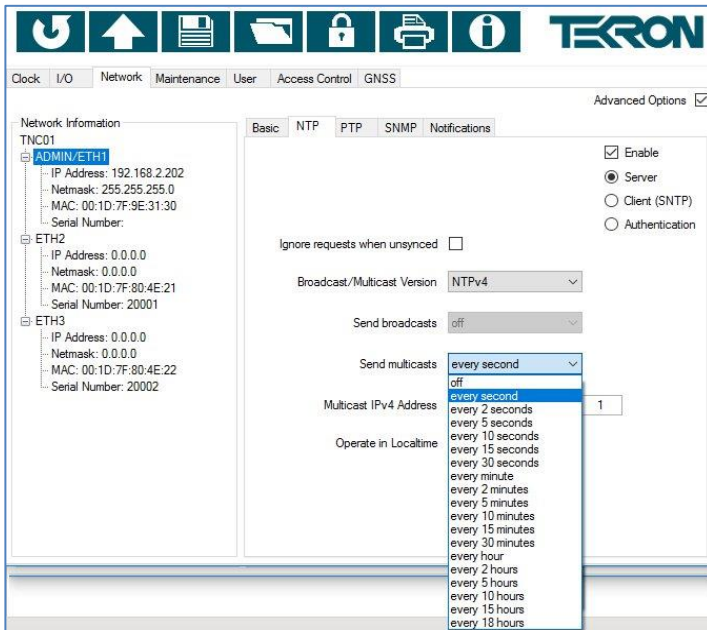

Figure 38 (a) - "NTP" sub-tab with Multicast Drop-down (Old Style)
**"Send broadcasts":** By default, this option is set to off. If the user wishes to configure the port to send periodic NTP Broadcast messages within the subnet, the user can select from the drop down list one of the following pre-set options as shown in Figure 38(a) or the newer method available in ConfigTool 4.3.1.1 and later is to select specific delay in Hours, Minutes and Seconds as shown in Figure 38(b).
*“Send multicasts”:* By default, this option is set to off. If the user wishes to configure the port to periodically output NTP multicast messages to a multicast group, the user can select from the drop down list one of the following pre-set options and configure the appropriate multicast IP Address as shown in Figure 38(a) or the newer method available in ConfigTool 4.3.1.1 and later is to select specific delay in Hours, Minutes and Seconds as shown in Figure 38(b).
The SNTP Client function allows the Clock to synchronize to a NTP/SNTP Master Clock as shown in Fig 38(a). This feature has been added for testing purposes. This feature is not available on legacy clocks. It is recommended that the SNTP Client functionality be restricted to a laboratory or controlled environment, and should not be used on corporate LANs or in Ethernet networks on a permanent basis, as some configuration options do not comply with the published RFC. The SNTP Client operation is also dependent on the Sync Priorities configured for the clock. Refer to the "Clock Source Priorities" section for further information.
When PRP is active the details of both NTP ports is shown on the SNTP Client as shown in Figure 38(b).